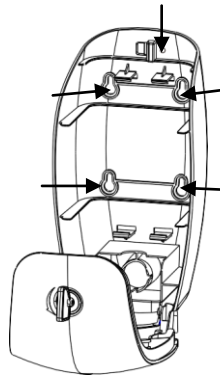

Figure 2
4. Use the back plate for the drill marks and mark the 5 drill locations (Fig. 2).